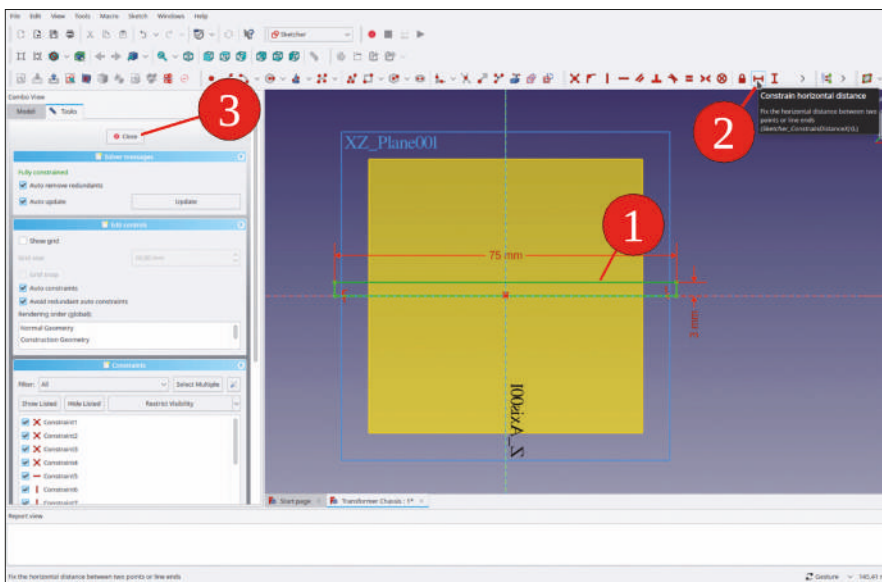

Figure 9-53
12. In a similar way, constrain the width of the rectangle to 75 mm (Figure 9-53). Close the sketch.